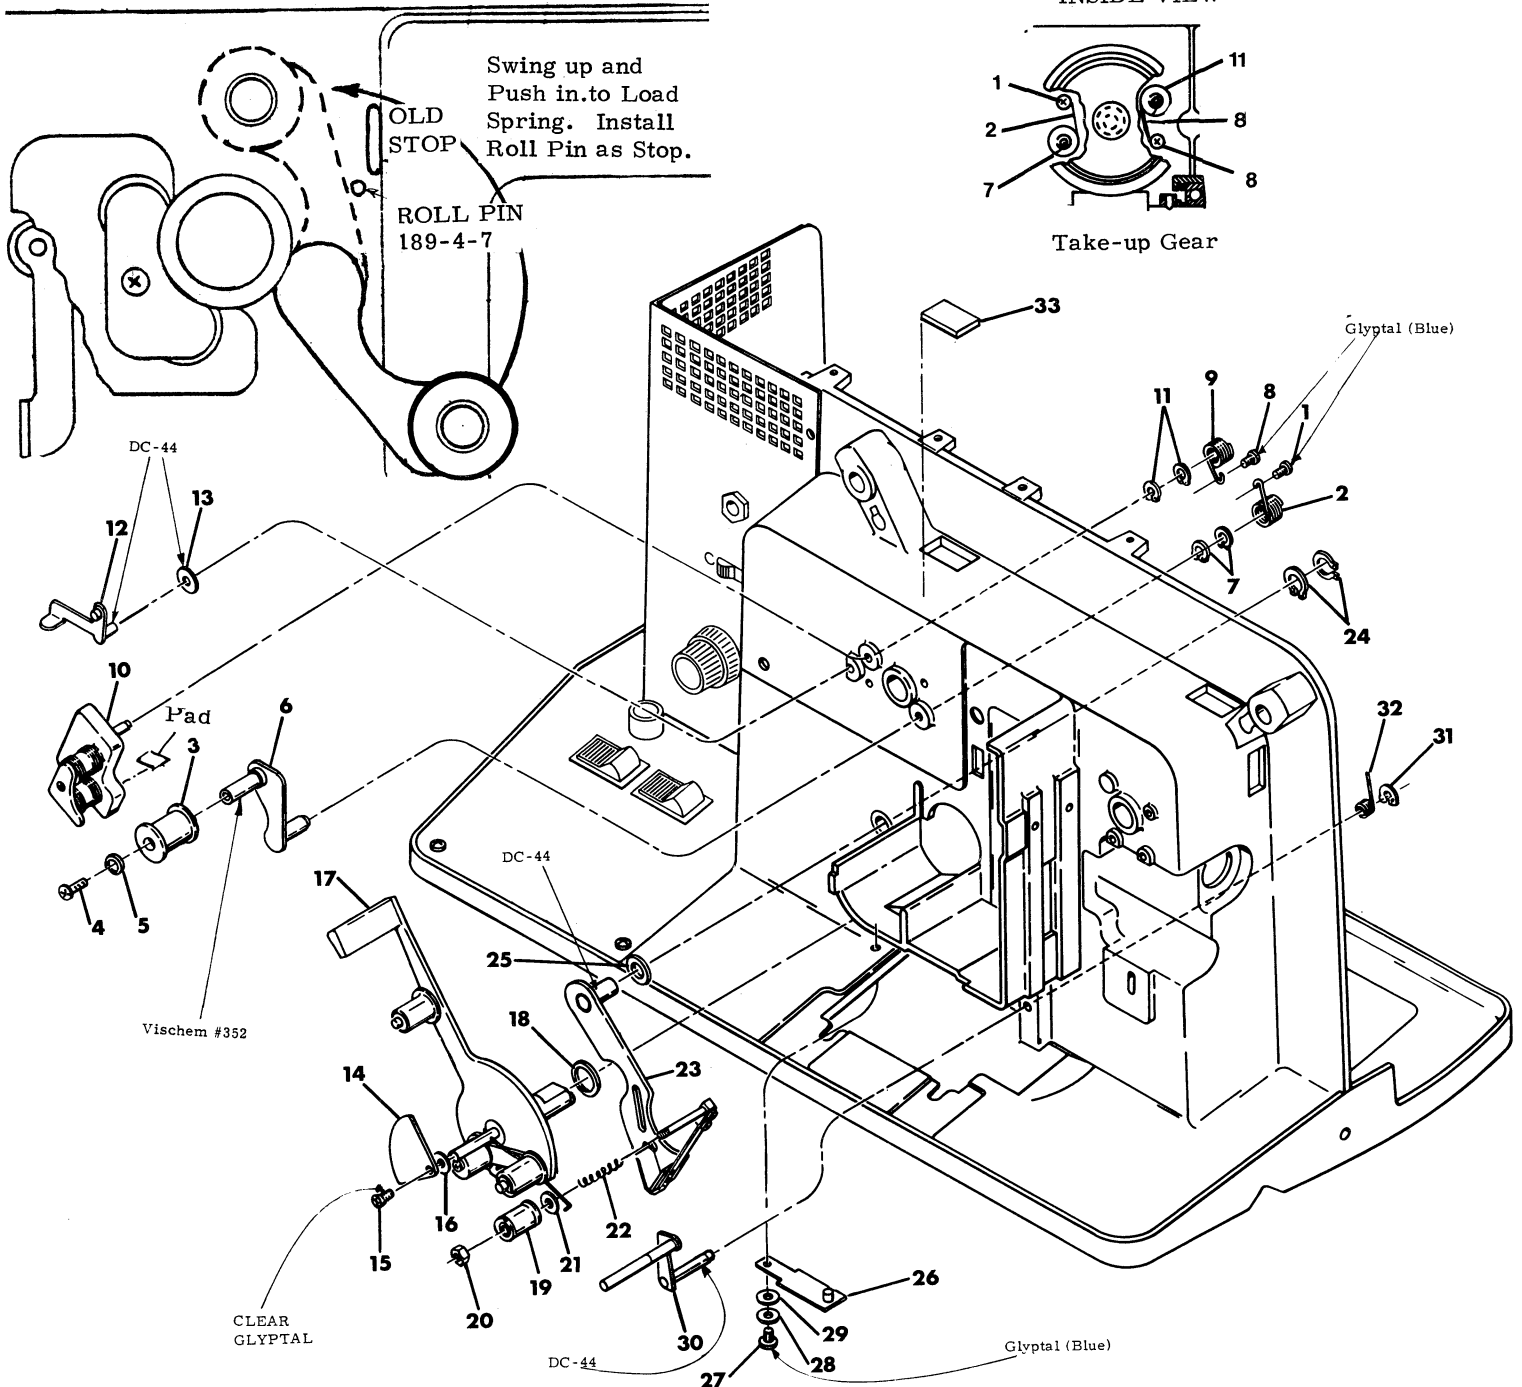

Figure 3-3. DISASSEMBLY AND REASSEMBLY
2. Open Takeup Sprocket Shoe Arm (10), Figure 3-3.
3. Loosen Screw (26) and hold Takeup Sprocket (25) while removing Takeup Gear (29).
Removal of Reel Tension Arm (Figure 3-3)
Reassembly of Reel Tension Arm to Projector (Figure 3-3)
- a. Use a prick punch to locate a hole just below and slightly behind the reel tension arm Stop molded as part of the main casting (note position in Figure 3-3)
2. Apply Vischem 352 lubricant to roller shaft of Reel Tension Arm and assemble Roller (3) to arm.
4. Assemble Reel Tension Arm to projector - allow it to hang down as shown in (Figure 3-3)
5. Assemble two new Grip Rings (7) to shaft, pushing them just past bottom of slot in end of shaft.
6. Assemble Spring (2) to main casting with Screw (1). Do not tighten screw completely.
7. Push tail of Spring (2) into slot in shaft by moving Reel Tension Arm to align slot with tail.
9. Push Reel Tension Arm snugly against main casting and push Grip Rings (7) up against inside of main casting. End play of Reel Tension Arm should be about .005". (If provision was made in Step 1 for a Roll Pin Stop or if an existing Roll Pin had to be removed during this procedure, a new roll pin should be installed at this point. Hold the Reel Tension Arm back and insert a 189-4-7 Roll Pin, allowing it to protrude from front surface of casting about 5/32".)
10. Tighten Screw (1) and apply a coating of Glyptal 7526 to its head.
Reassembly of Takeup Sprocket Shoe Arm to Projector (Figure 3-3)